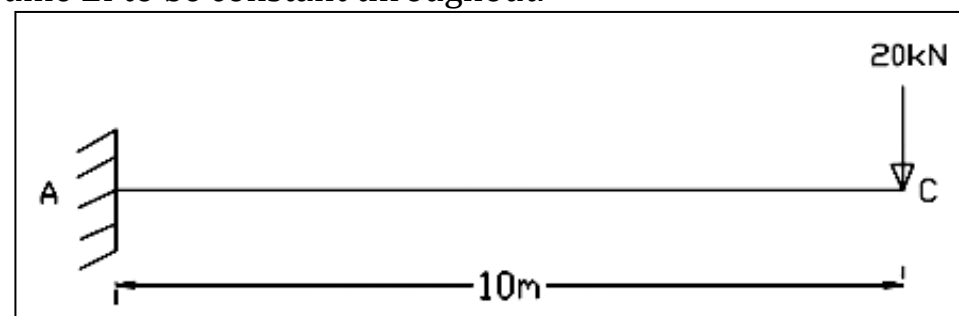

Fig. 8
8. (a) Calculate the value of deflection and rotation at the free end of the cantilever beam as shown in Fig. 8 using double integration method. Assume EI to be constant throughout.